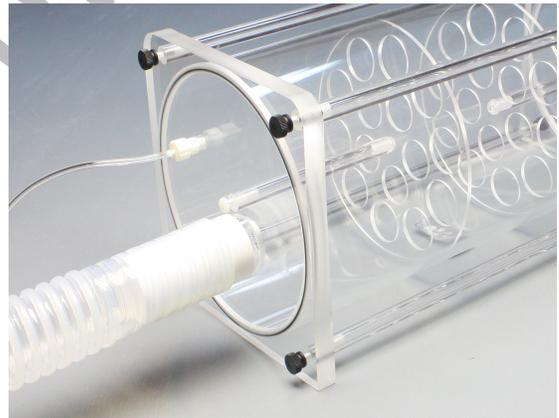

Figure HE-4-S16: 3 liter calibration syringe connected to the smooth bore tubing and Figure HE-4-S17: The smooth bore tubing connected to the mixing chamber.
- Connect the braided Nafion tubing to the filter on the gas analyzer and to the flow head side of the mixing chamber. Make sure the braided end is connected to the filter (Figure HE-4-S15).